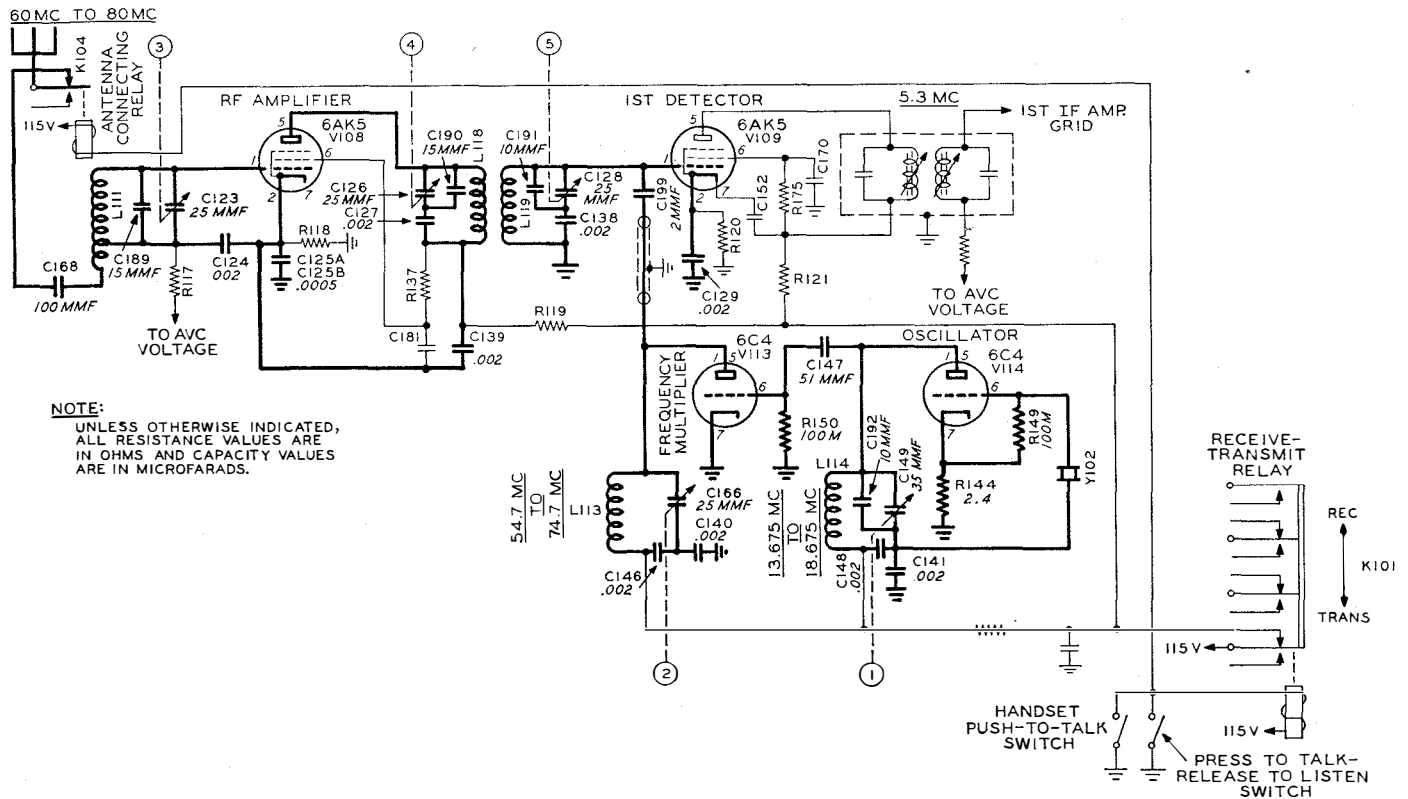

Figure 4-11—Receiver RF Circuits
(1) RF CIRCUITS. (See figure 4-11.)—The antenna is connected through the normally closed contacts of relay K104 and coupling capacitor C168 to one end of the tapped RF input inductor, L111.